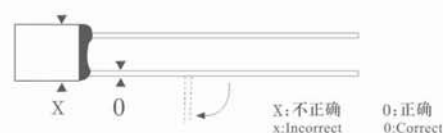

图 2 Fig.2
- 当弯曲引脚时，须用工具操作以确保引脚弯曲有足够弧度，引脚不可在距根部 3mm 内弯曲，在弯曲时工具不可夹着外壳及封口树脂。（见图 2）
- When forming leads, a tool should be used to ensure that the leads are formed with sufficient curve .Leads should not be bent closer than 3mm to the thermal cutoff body. Holders or tools used during lead forming must be kept away from seal or body.(see Fig2)